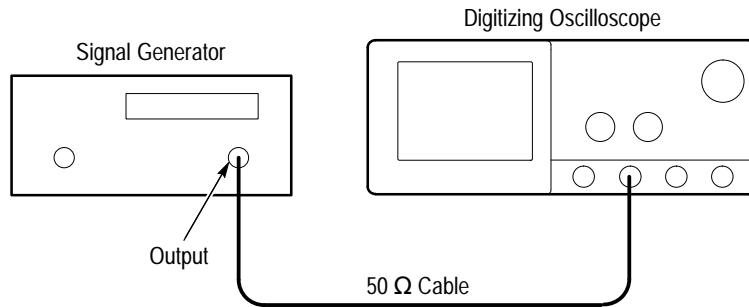

Figure 4-30: 60 Hz Rejection Test Hookup
- Connect the output of the SG 502 to the CH2 input through a 50  $\Omega$  cable. See Figure 4-30.